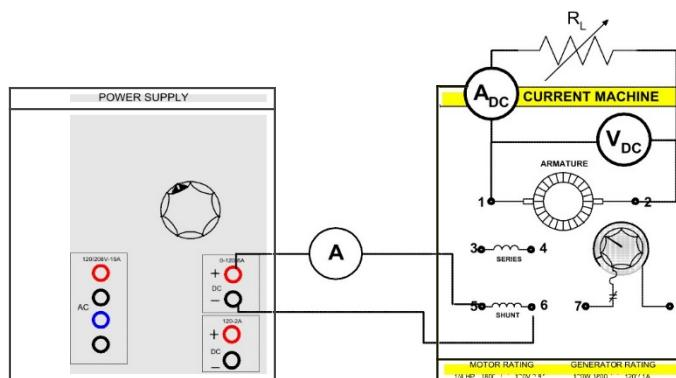

FIGURE 12.10
- Step 9: Using your EMS Resistance Module, connect the circuit shown in Figure 12.10. Place the resistance switches so that the total load resistance is 120 ohms.